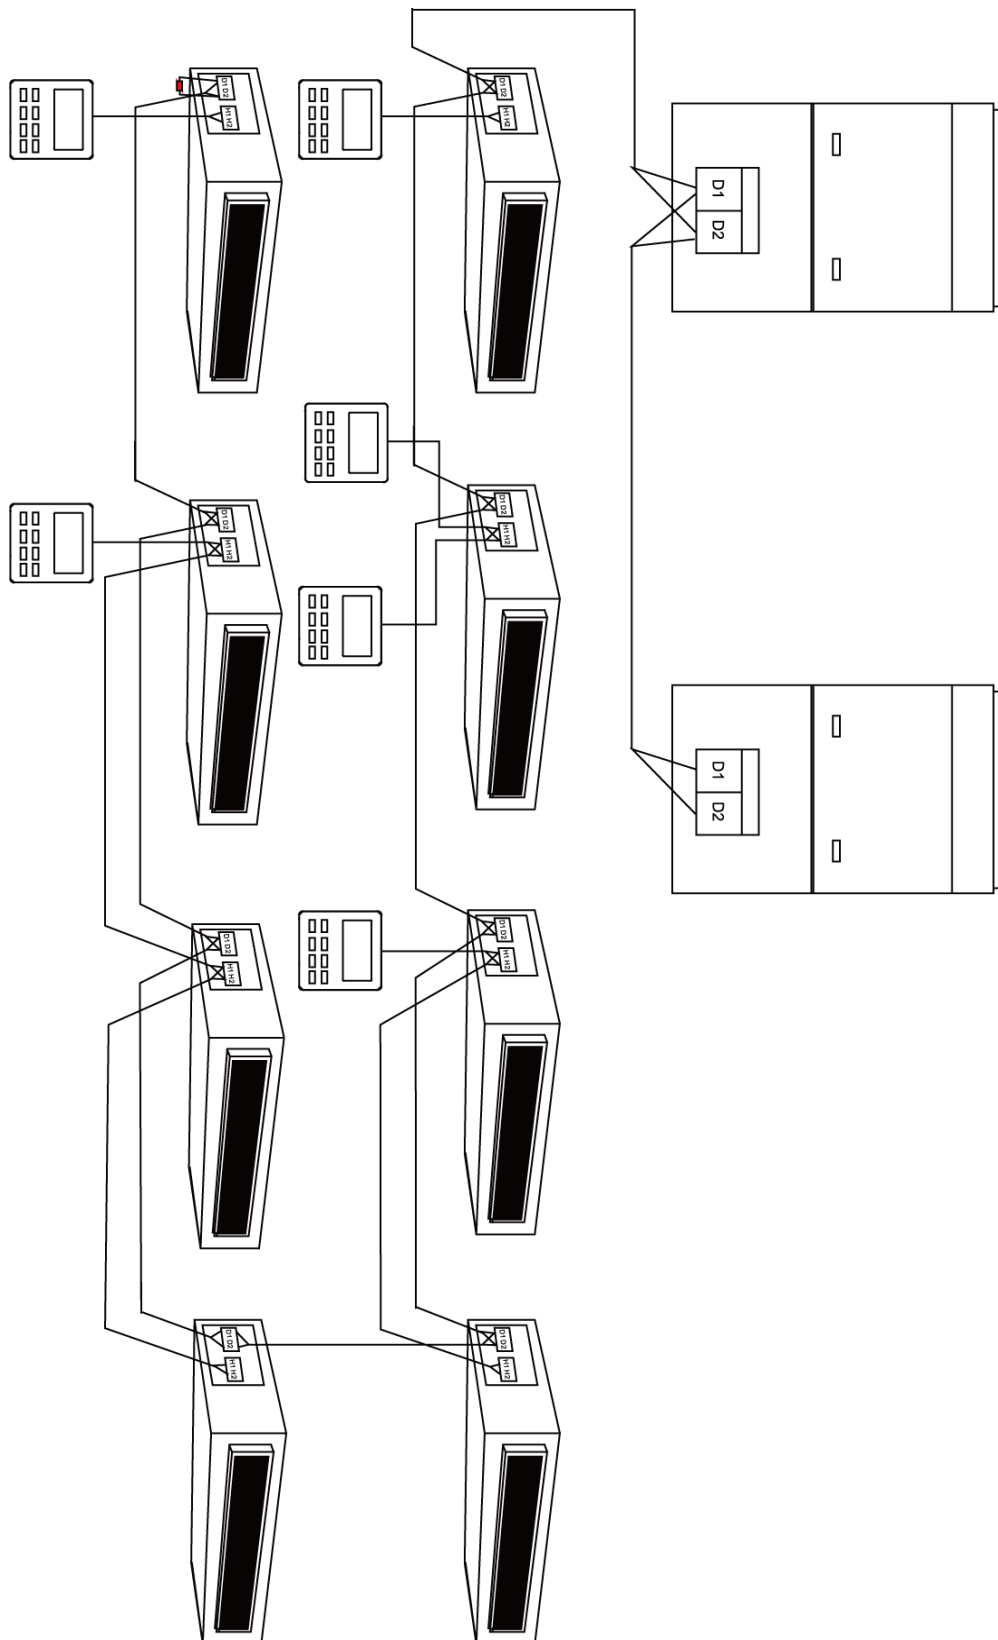

Fig 5.5.1
- (1) Communication wire of indoor unit and outdoor unit (or indoor unit) is connected to D1, D2.
- (2) Wired controller is connected to H1, H2.
- (3) One indoor unit can connect two wired controllers that must be set as master one and slave one.
- (4) One wired controller can control 16 indoor unitS in maximum at the same time. (as shown in fig5.5.1)